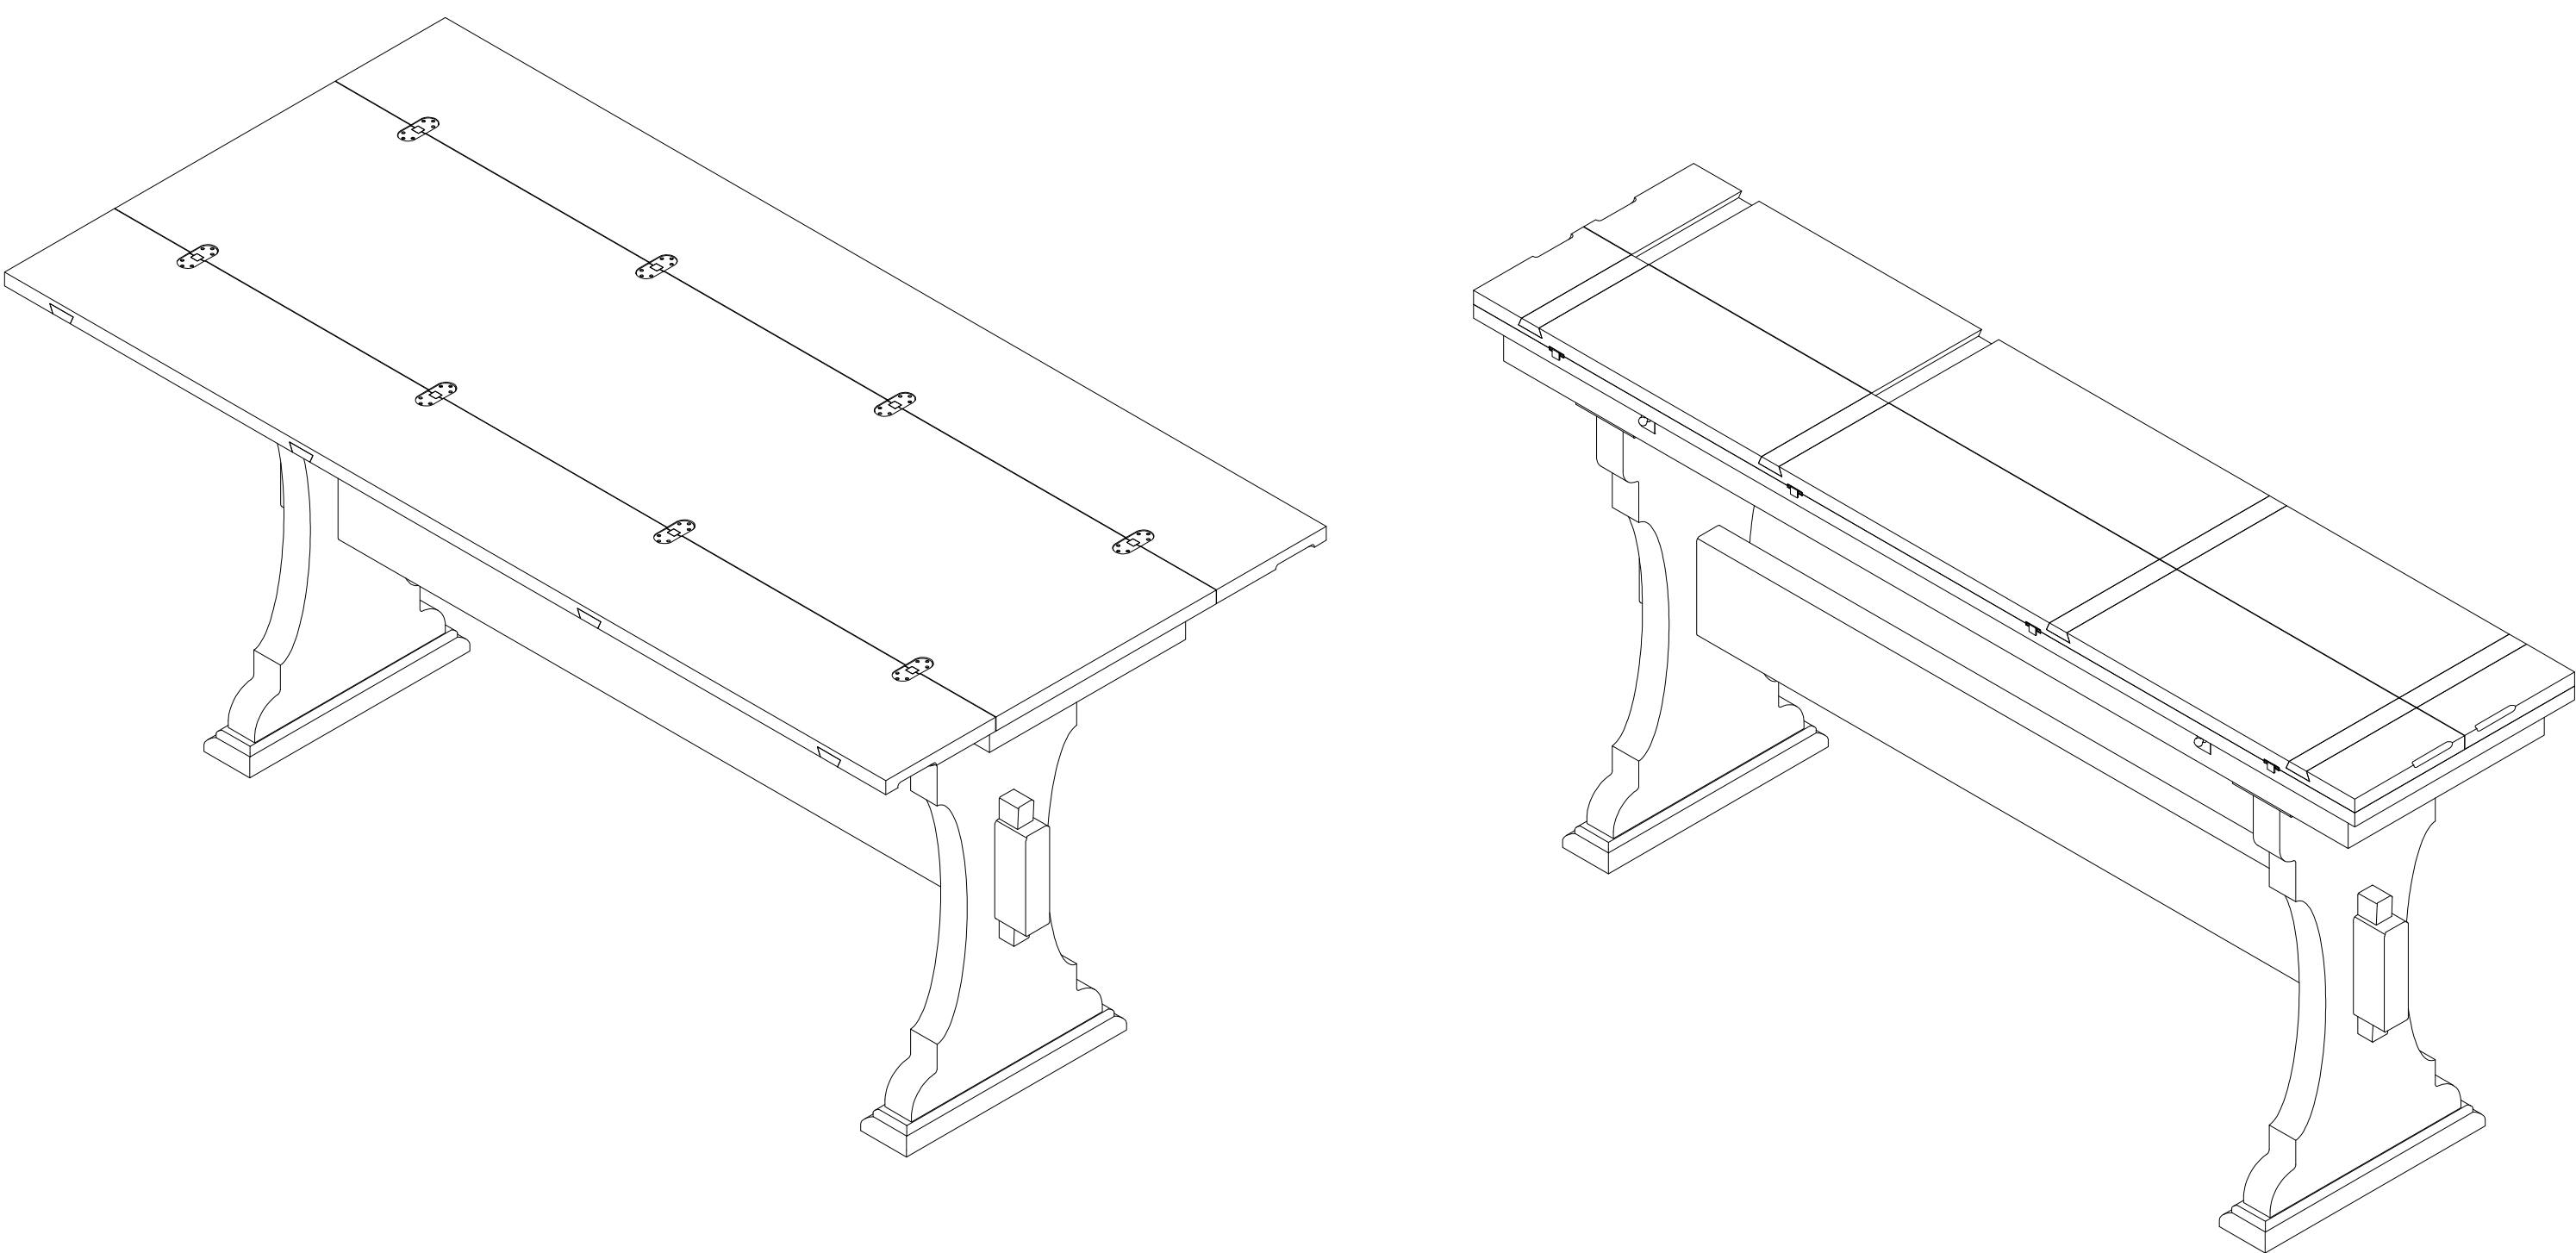

Fig 4
4. Fix the wooden buttons (L) to the base as shown Fig 4.